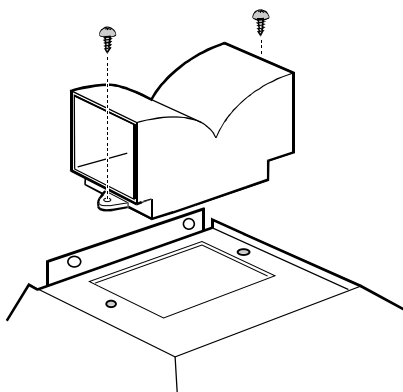

Fig. 2
- Fix the deflector with two screws $\text{Ø}3,5 \times 6,5$. **Fig. 2.**